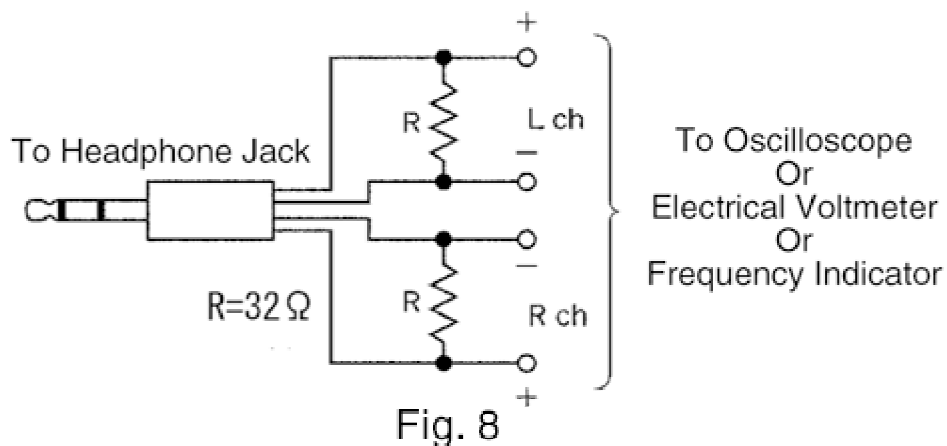

Fig. 8
- Headphone jack output jig (Cf. Fig. 8)
3. Connect the headphone jack output jig (cf. Fig. 8) to headphone jack.